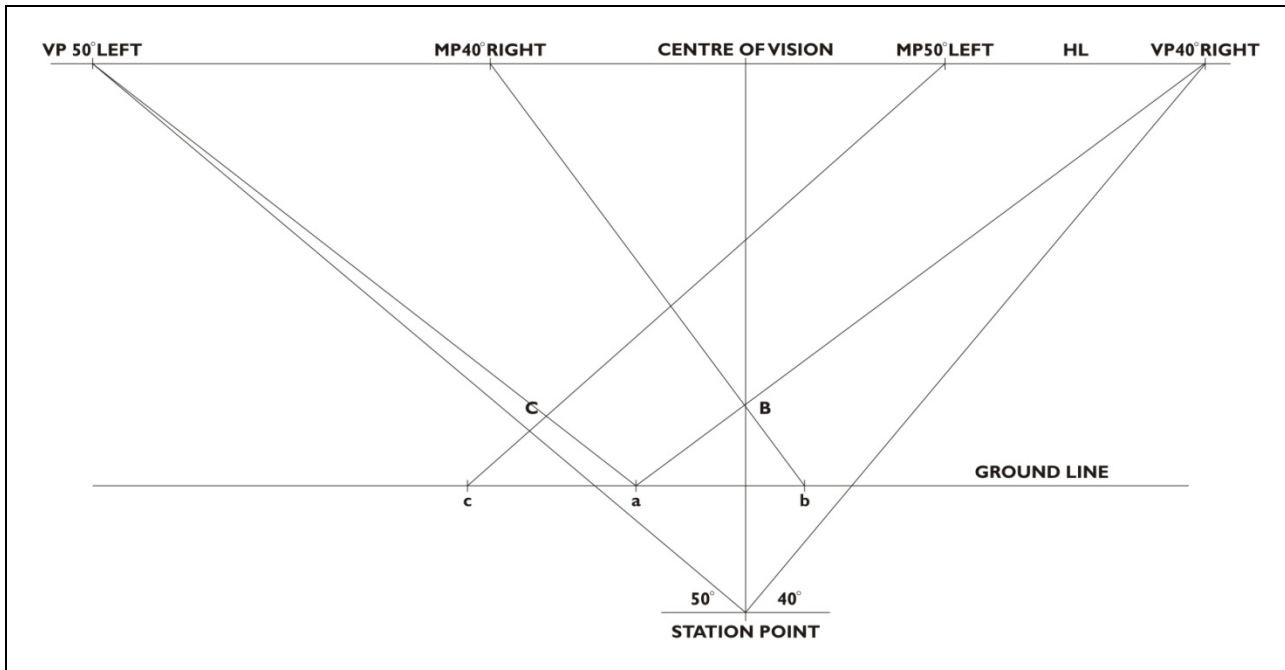

Figure 3.7 Two-point perspective using measuring points
3. Point a vanishes to VP50° Left. To establish its perspective foreshortened length (a-c), project a line from point c to MP50° Right to create a-C. Refer to Figure 3.7.